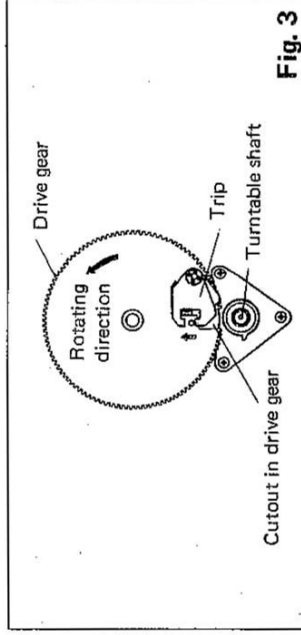

Fig. 3
- (3) (The tonearm counterweight is shipped in a plastic bag.) Peel off the tape securing the trip. Make the cutout section of the drive gear meet the turntable shaft. Then, push the trip in the arrow-marked direction. (Fig. 3)
- (4) Be sure that a belt is attached to the turntable. Then, put the turntable onto the turntable shaft.